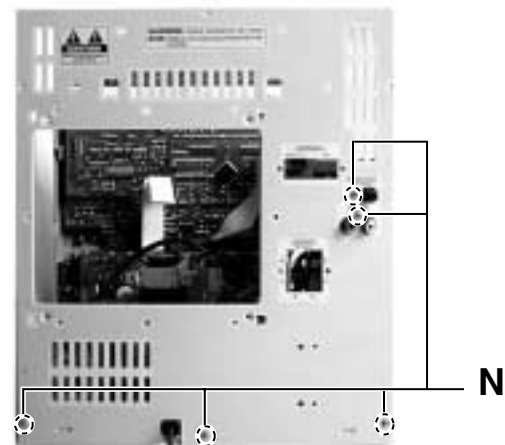

Fig.18
■ Removing the rear cover (See Fig.18)